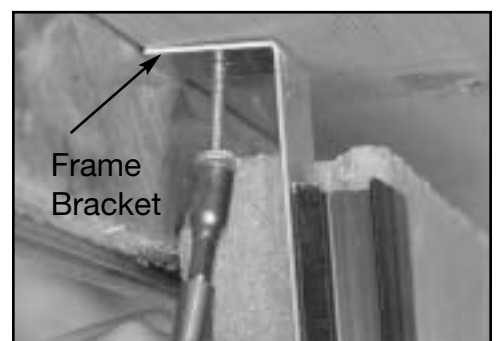

Fig. 4
**underneath the home:** The Frame bracket is attached to the floor joist of the home. It is placed in front of the I-Beam in the completed column. This bracket may require L-Trim if the siding is not drop down. (Fig. 4)